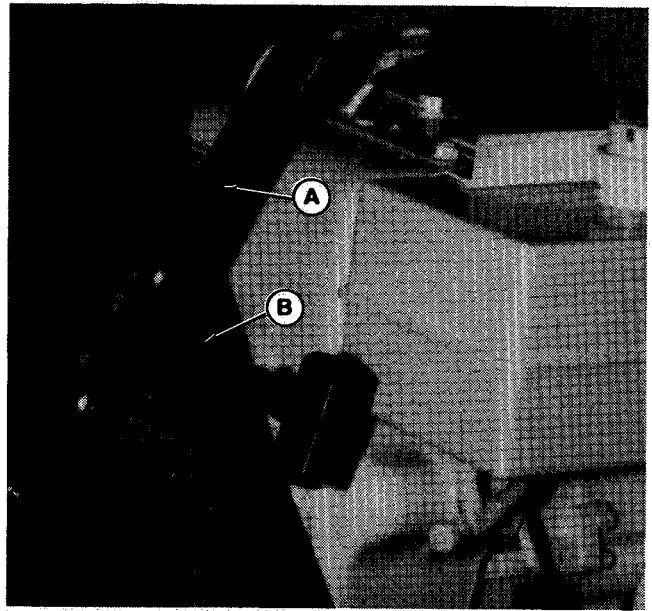

Figure 4
3. Install the right-hand side support and the rope guide as shown in figure 4 with two screws and 1/4" nuts. (Slip the rope handle in the rope guide before installing the screws).